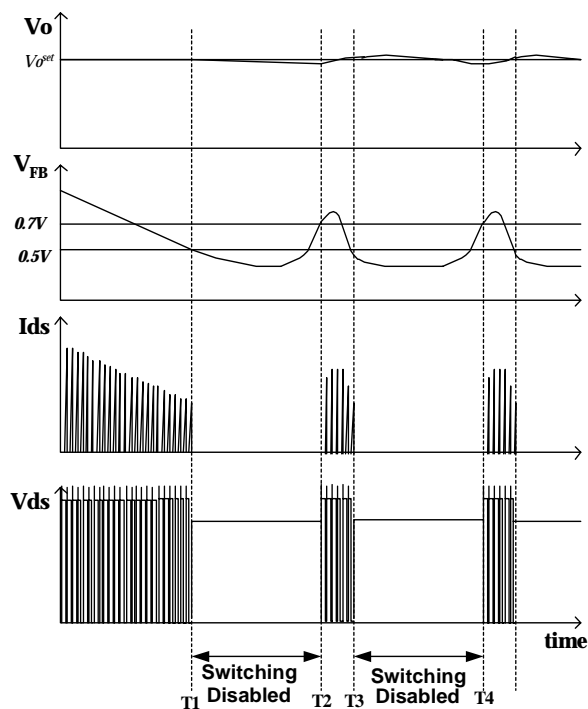

Figure 8. Waveforms of Burst Operation
5. Burst Operation: To minimize power dissipation in standby mode, the FSDM0465RB enters burst mode operation. As the load decreases, the feedback voltage decreases. As shown in Figure 8, the device automatically enters burst mode when the feedback voltage drops below $V_{BURL}(500mV)$. At this point switching stops and the output voltages start to drop at a rate dependent on the standby current load. This causes the feedback voltage to rise. Once it passes $V_{BURH}(700mV)$, switching resumes. The feedback voltage then falls and the process repeats. Burst mode operation alternately enables and disables switching of the power SenseFET thereby reducing switching loss in Standby mode.